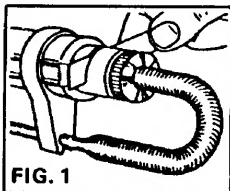
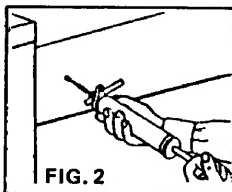

FIG. 1
FIG. 2
(1) Tear strip from perforated FILTER PAPER sheet (in SMOKE SCALE envelope); loosen Clamp Screw, insert end of paper strip in slot (Fig. 1) and tighten Clamp Screw; release Sampling Tube from rubber barrel Clip.
(2) Insert Sampling Tube at least 2½ inches into flue through 9/32 inch diameter hole located between furnace/boiler flue outlet and draft regulator.
(3) Pull TRUE-SPOT Handle through TEN (10) full pump strokes (Fig. 2).
(4) Remove Sampling Tube from flue, loosen